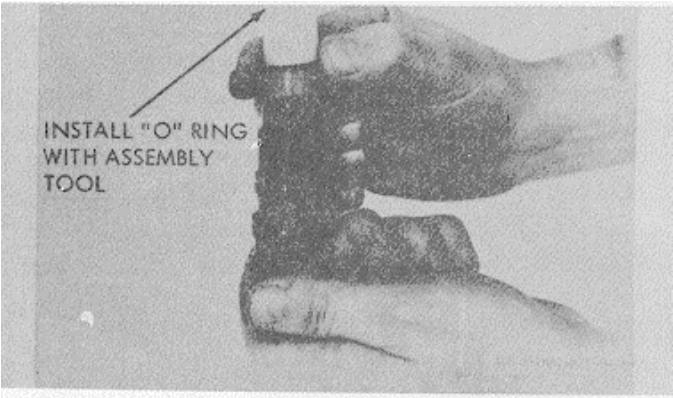

Figure 3-86. Installing O-ring with assembly tool.
(1) Install new O-ring with proper assembly tool listed below each time cup is removed, figure 3-86.